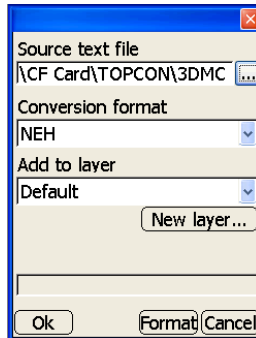

Figure 3-14. Select Conversion Format and Layer to Import Points
3. On the **import** dialog box, select a conversion format from the drop-down list (Figure 3-14). If no conversion formats are listed or you need a new format, see “Creating Conversion Formats” on page 3-3 for more information.
4. Tap one of the following (Figure 3-14):